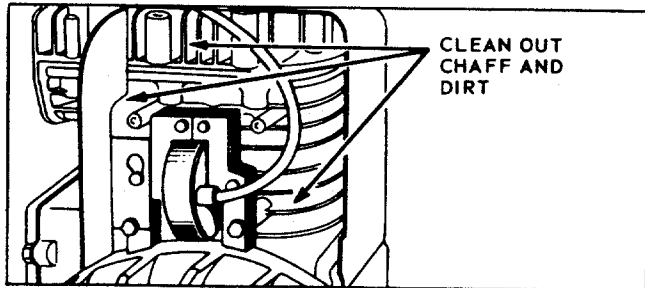

FIGURE 16. COOLING FINS
- Step 3. With the tiller on level ground, remove the oil filler plug (See figure 16). Fill the crankcase until the oil overflows from the oil fill hole. Fill slowly to avoid air locks. The crankcase should hold approximately 2¾ pints of SAE 30 type MS engine oil. Replace the oil filler plug.
The blower housing is held in place with three screws. One on the top of the engine and two on the bottom. See figure 16.